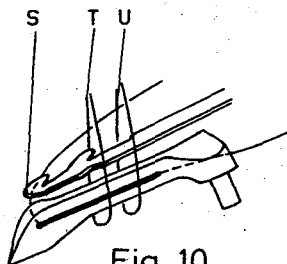
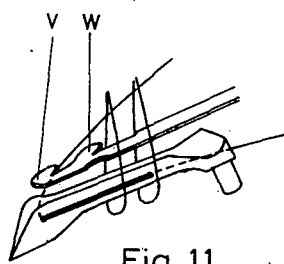

Fig. 10
Fig. 11
7. The setting of the lower knife tip as described in item 6 is a basic adjustment. It must be rechecked according to Fig. 10 and Fig. 11. The lower knife must pass through the needle thread loops (T and U, Fig. 10) and deflect the looper thread at edge (S). As the lower knife swings back, the looper thread must be caught by cutting edge (V, Fig. 11) and the needle threads by cutting edge (W, Fig. 11) and drawn back to the upper knife.